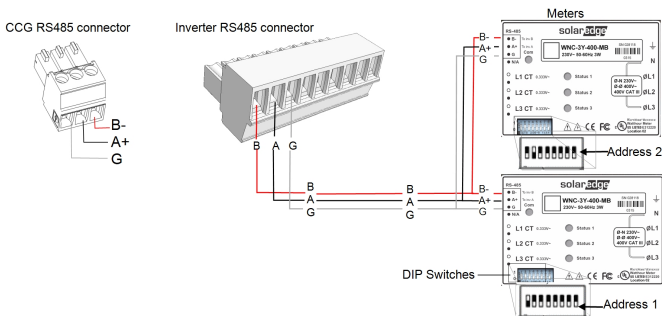

Figure 17: Meters connection to the inverter or CCG RS485 connector
1. Connect the twisted pair of wires to the meters as shown in *Figure 17*.